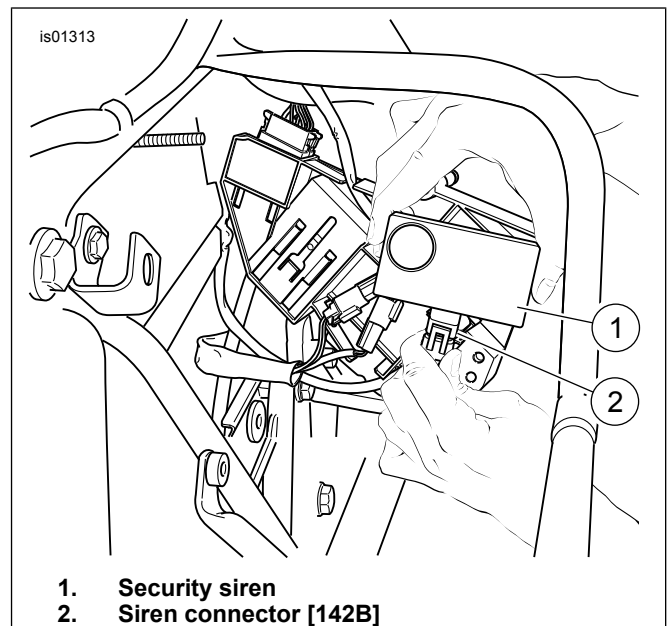

Figure 15. Siren Connector (2002-2007 Touring)
6. See Figure 15. Insert security siren connector [142B] (2) into siren box receptacle until connector latches securely.